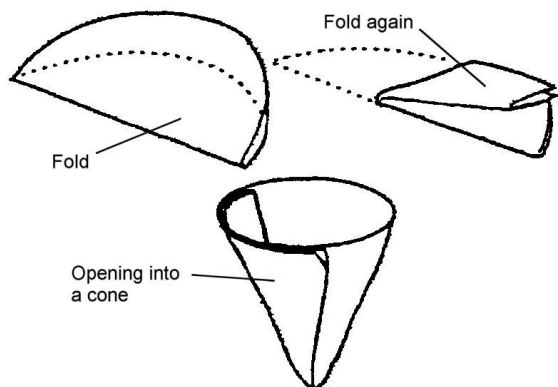

FIGURE 3. Folding a piece of filter paper
2. Fold the filter paper as shown in FIGURE 3.